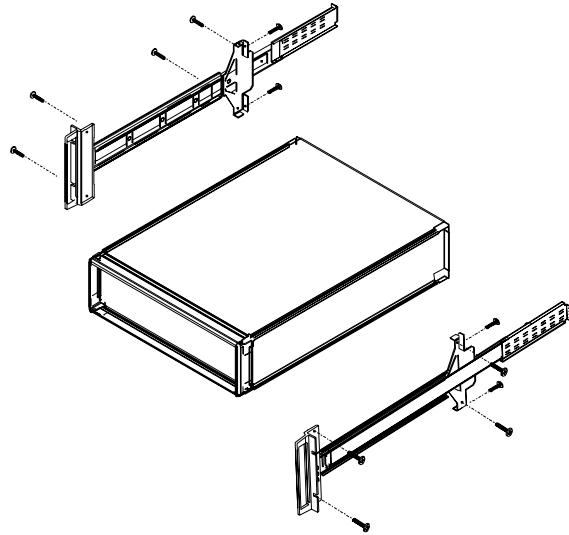

Figure 2-2
- Step 7. Place the left side slide assembly onto the instrument case with the handle towards the front of the instrument (Figure 2-2).